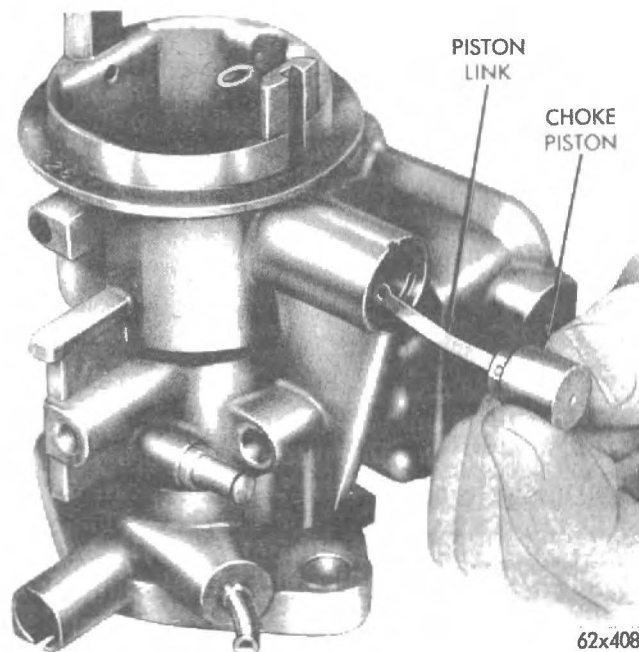

Fig. 23 - Removing or installing choke piston.
(20) Slide the choke piston and link out of its cylinder (Fig. 23).
(1) Slide the choke piston and link into the piston cylinder, with the piston link arc, uppermost (Fig. 23). Install new welch plug and seat by rapping with a ball-pene hammer on the centre of the plug.
(2) Slide the choke shaft into position, then install the choke valve and link bracket. Install the attaching screws but do not tighten.